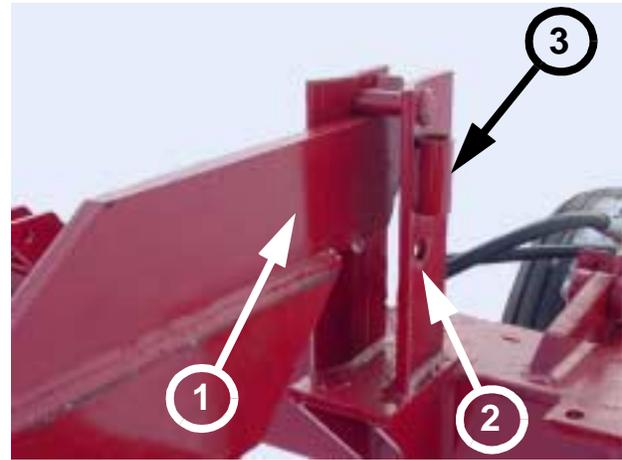

Figure 33
1. The transport bar (#1), as shown in Figure 33, locks the wing frames in position for transport by a 1" x 6" transporting pin (Pin has been removed for picture). When the machine is folded for transport, the pin should be inserted through the hole (#2). This pin (shown removed) must be removed to unfold the Xpress Air Drill. Store the pin in the holder (#3), to prevent loss.
- Place the 1" x 6" transport pin, under the transport bar in hole (#2) as shown in Figure 33 on page 50. The Xpress Air Drill is now in the transport position.
Note: If the wings will not fold completely in so the transport lock bar will latch as shown in Figure 33 on page 50, make the necessary adjustments in the following steps.